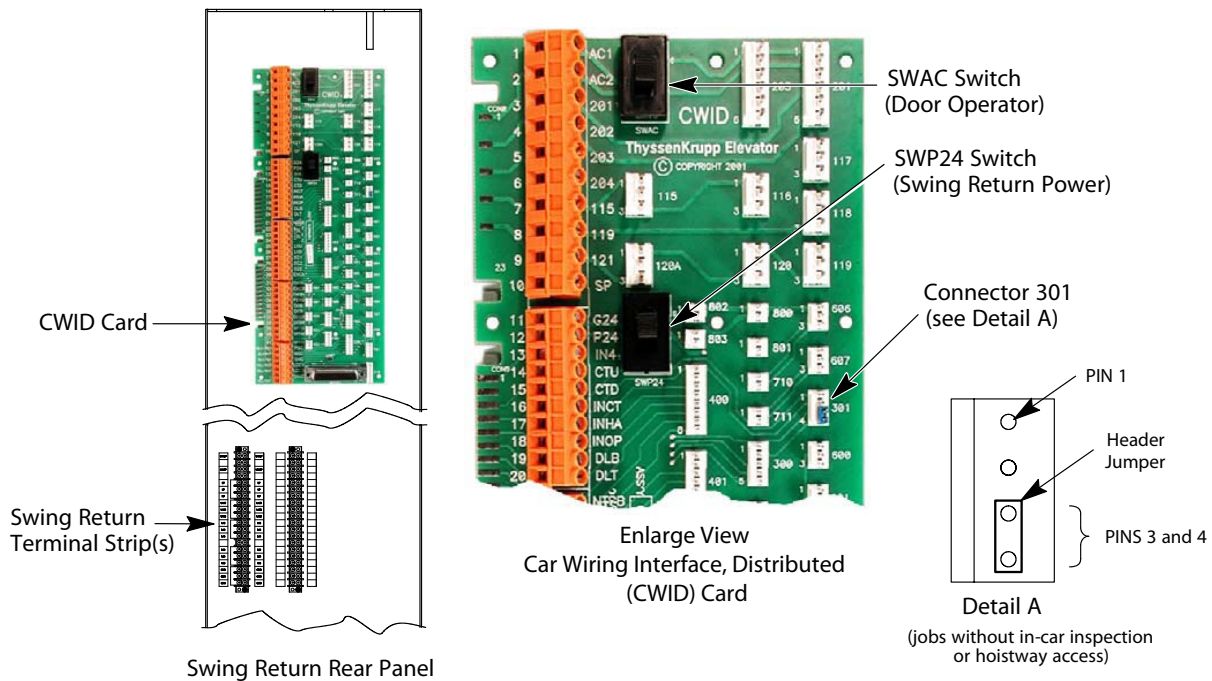

Figure 15 - Swing Return Terminal and MTA Locations
1. Connect the traveling cable to the CWID card. See the swing return terminal label, the job wiring diagrams, and Figure 15 for all steps in this procedure.